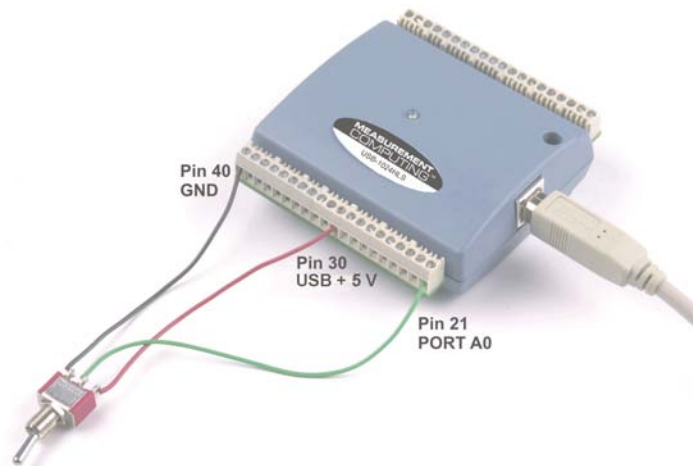
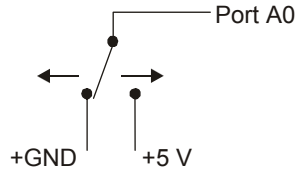

Figure 3-3. Digital connection of Port A0 detecting the state of a switch
Figure 3-4. Schematic showing switch detection by digital channel Port A0
When configured for input, you can use the USB-1024HLS digital I/O terminals to detect the state of any TTL level input. Refer to the switch shown in Figure 3-3 and the schematic shown in Figure 3-4. If you set the switch to the +5 V input, Port A0 reads TRUE (1). If you move the switch to GND, Port A0 reads FALSE.